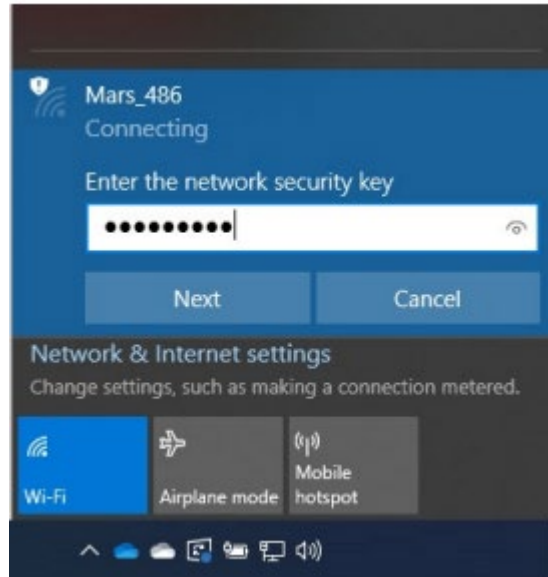

Figure 4-1: Selecting the Mars unit's Wi-Fi network for configuration
- For example, on a Windows PC you may see a dialog like **Figure 4-1** by accessing the network selection icon in the lower right corner of the screen.